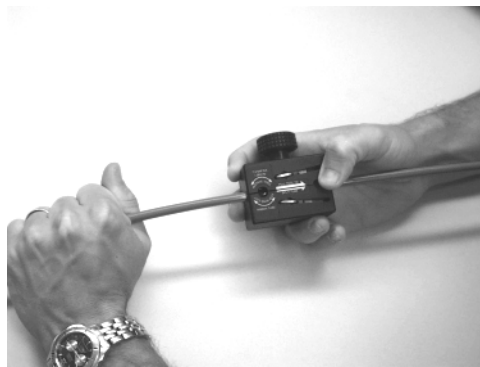

Figure 5 – Pull the Quick Split RT tool lengthwise to split the tube.
7.5 Pull the Quick Split RT tool along the tube in the direction indicated by the “pull to split” arrows (Figure 5).